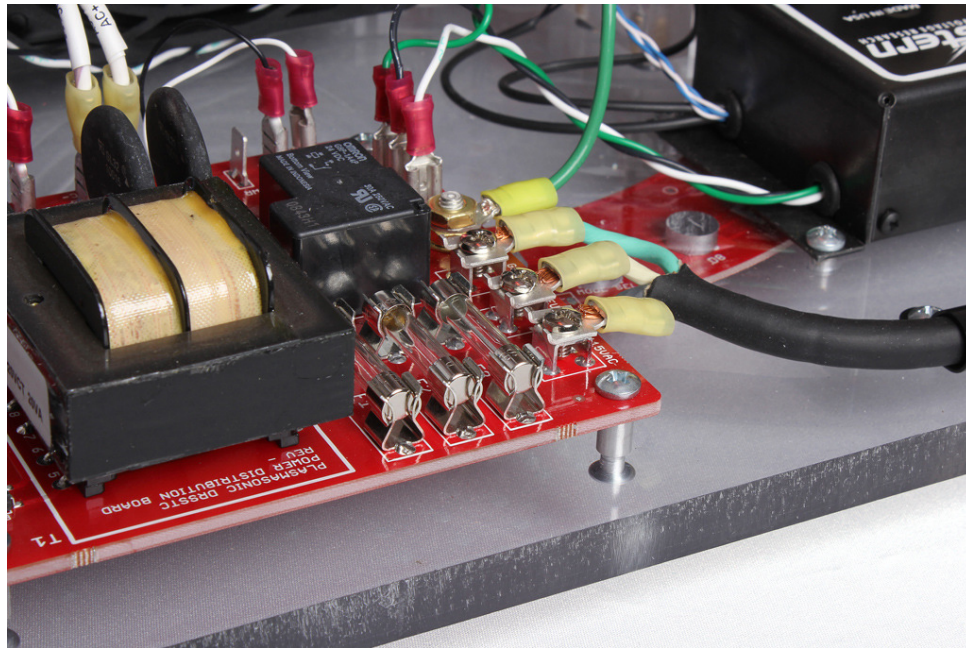

Figure 7 – Input Power Connections to Plasmasonic DRSSC
- ❑ 2. Connect the power cord to the terminals on the Power Distribution Board, as shown in Figure 7 below, labeled 115VAC, NEUTRAL, and GND. Connect the appropriate color wire to the terminal as shown below.
- ❑ 3. Once the power cord is connected to the Power Distribution Board, please secure the power cord to the bottom base assembly using the provided two (2) cable clamps as shown above in Figure 7.
- ❑ 6. Connect the Secondary Coil Assembly ground wire to the heatsink GND terminal. There are two green wires that are attached to a single point via a hex screw on the heatsink. This is the heatsink GND terminal. Using the appropriate allen key or similar tool, unscrew this GND terminal screw, and connect the secondary coil ground wire to this point along with the two other green GND wires as shown in the photo below. Be sure that the three (3) ground wires are routed in a such a way that they do not come into close proximity with other high voltage or power wires in the base assembly. Do NOT overtighten this screw or you may stripped the aluminum threads in the heatsink!